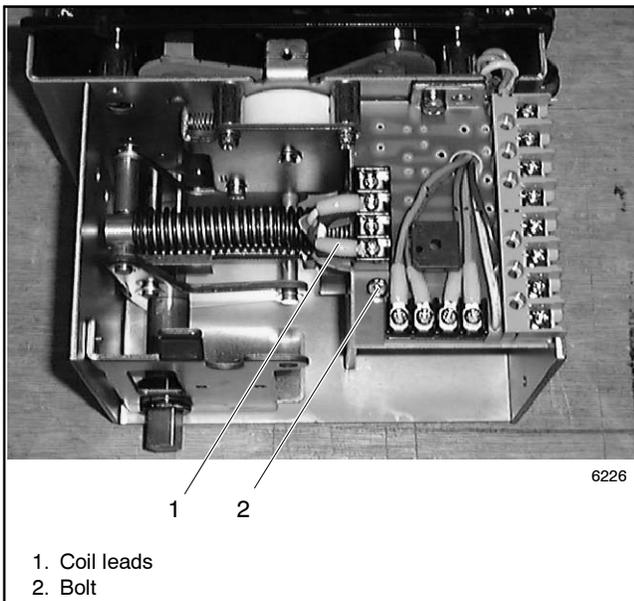
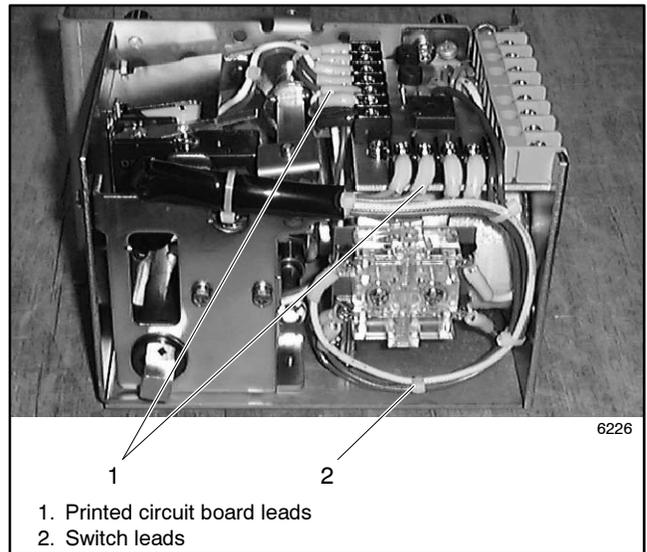

Figure 6-11 Circuit Board Connections
Figure 6-12 Control Switch Wiring
1. Note the connections (for reconnection later) and disconnect the printed circuit board leads. See Figure 6-11 or Figure 6-12.
2. Disconnect the control switch leads at three terminals. See Figure 6-12.
4. Remove the bolt and replace the printed circuit board. See Figure 6-11.